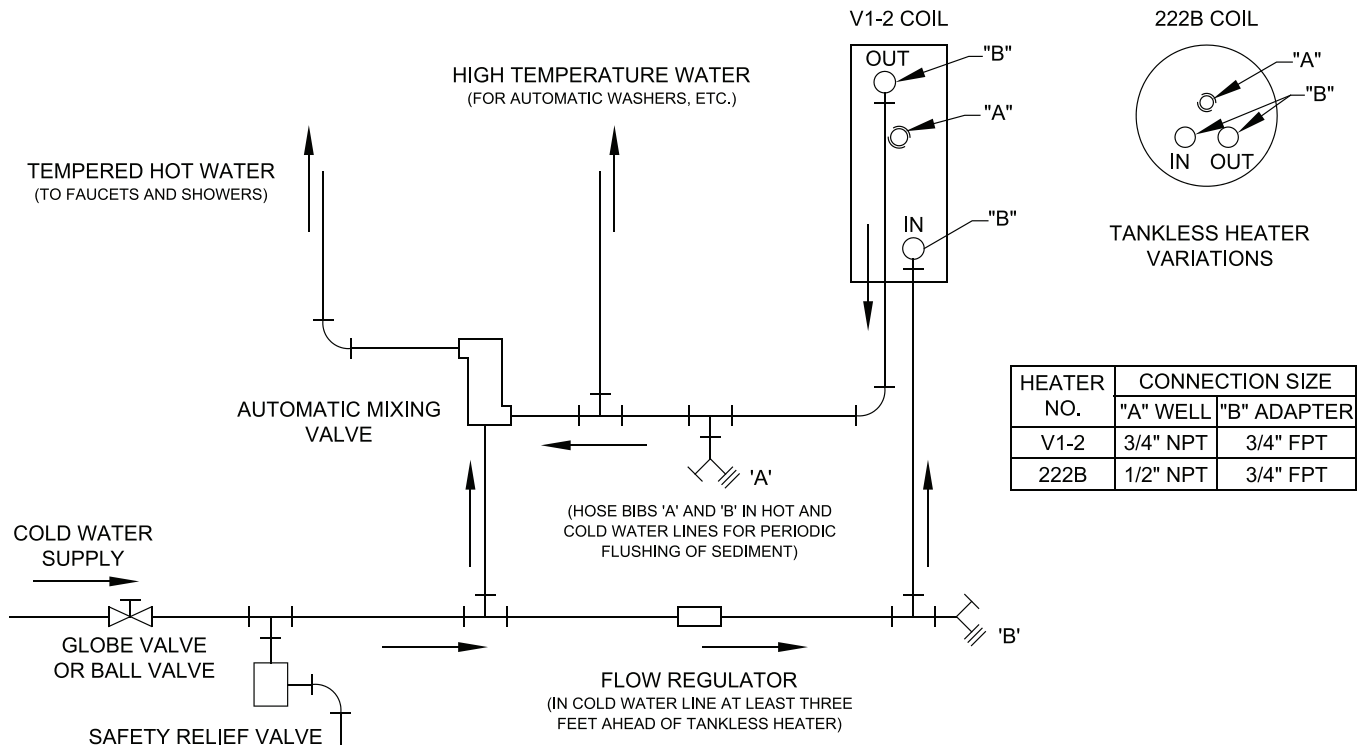

Figure 16A: Schematic Tankless Heater Piping
A. **CONNECT TANKLESS HEATER PIPING** as shown in Figure 16A. See Tables 2A and 2B for Tankless Heater Rating.
2. **TEMPERING OF HOT WATER** — Installation of an automatic mixing valve will lengthen the delivery of the available hot water by mixing some cold water with the hot. This prevents the possibility of scalding hot water at the fixtures. In addition, savings of hot water will be achieved since the user will not waste as much hot water while seeking a water temperature. Higher temperature hot water required by dishwashers and automatic washers is possible by piping the hot water from the heater prior to entering the mixing valve. The mixing valve should be "trapped" by installing it below the cold water inlet to heater to prevent lime formation in the valve. Refer to Figure 16A.